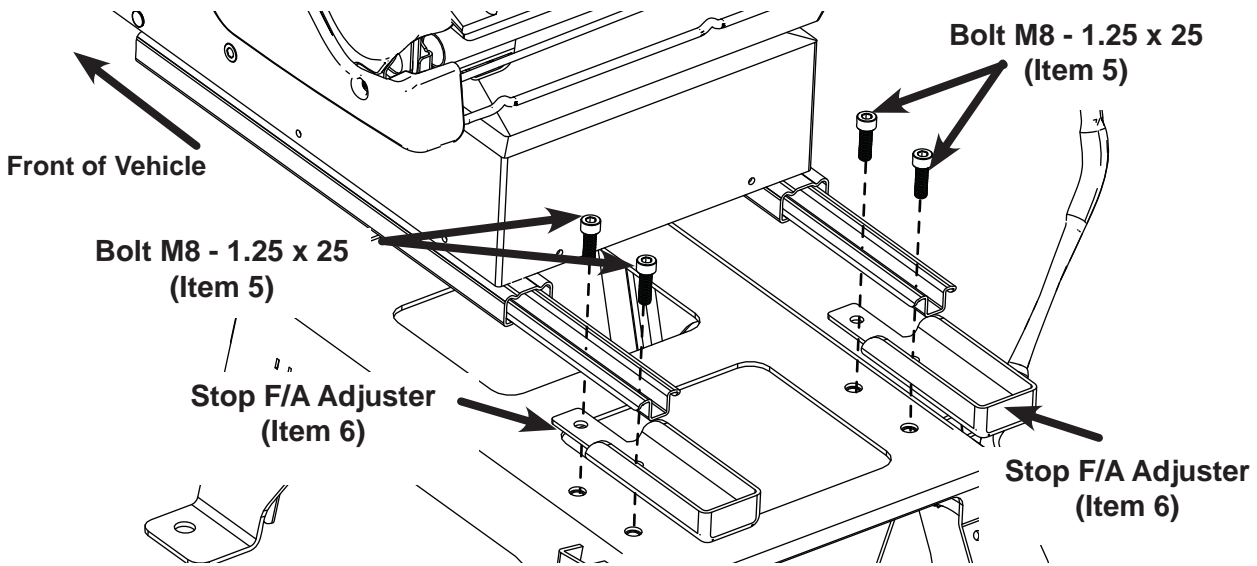

Fig. 22
34. Locate (2) Stop - Fore/Aft Adjuster (Item 6) between the fore/aft adjuster and the seat riser at rear aligning 2 mounting holes See Fig. 22
35. Using hardware from **(BAG C)** Install and tighten seat asm to riser using (4) BOLT, Socket Head M8 - 1.25 x 25 (Item 5) using 6mm Hex Bit and Ratchet